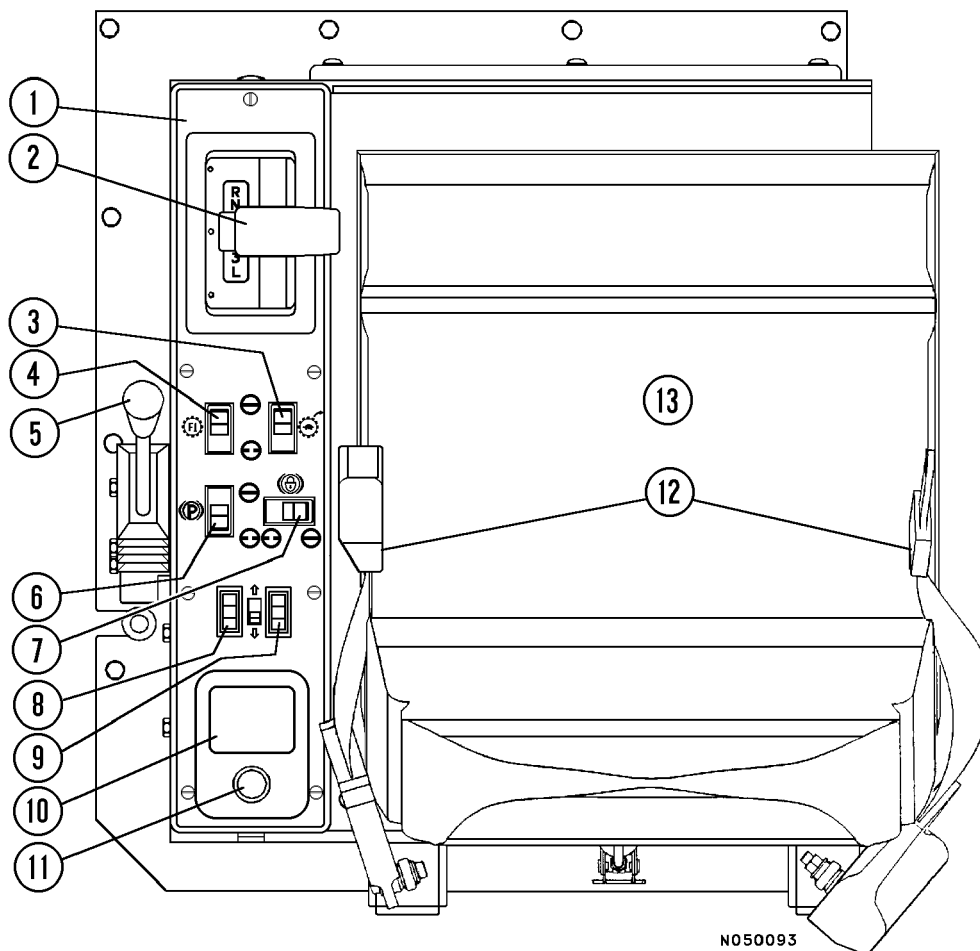

FIGURE 3-4. CENTER CONSOLE
The Center Console (1, Figure 3-4) located to the right of the operator seat, is a housing structure which provides a mounting surface for certain operator controls and a passenger seat.
Transmission Range Selector (2, Figure 3-4)
Control Switches (3, 4, 6, & 7, Figure 3-4)
Shift Limiter Switch (3, Figure 3-4)
F1 Start Switch (4, Figure 3-4)
Hoist Control Lever (5, Figure 3-4)
Parking Brake Switch (6, Figure 3-4)
Brake Lock Switch (7, Figure 3-4)
L.H. Window Control Switch (8, Figure 3-4)
R.H. Window Control Switch (9, Figure 3-4)
Ash Tray (10, Figure 3-4)
Lighter (11, Figure 3-4)
Passenger Seat w/Safety Belt (12 & 13, Figure 3-4)